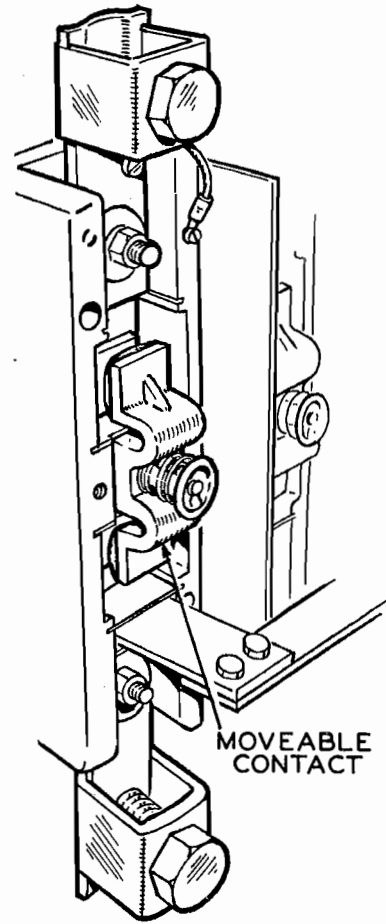

FIGURE 5. DOUBLE-BREAK CONTACTS
1. Using double break contacts. See Figure 5. An arc is produced by the power in an inductive load; the power dissipates as a voltage and current across the contacts. The faster the contacts open the higher the voltage and faster the arc goes out. Fast separation of opening contacts means fast arc suppression. By using two contacts in series, the transfer switch forces the circuit to open twice as fast as each contact moves cutting arc time to half of what it would normally be.